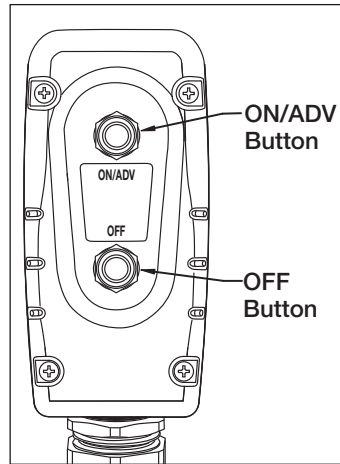

Figure 6, Pendant Buttons
See Figure 6.
1. To start the pump, press the “ON/ADV” button on the pendant. See Figure 6. The motor will start automatically, and the wrench will begin to advance. The wrench will continue advancing for as long as the button is held down. The pressure gauge will show the pressure in the advance circuit.